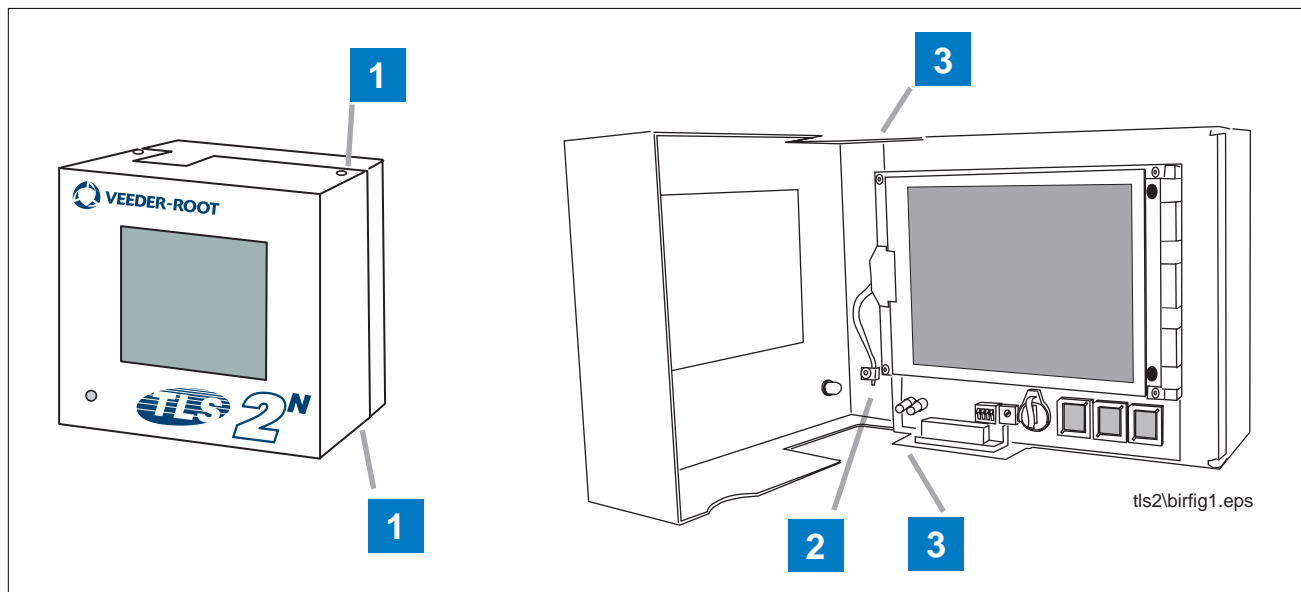

Figure 1. Replacing TLS-2N Console Door
- 1 Remove the top and bottom T-15 screws and washers from the right side of the console door (item 1 in Figure 1), swing the door to the left. Replace the two screws (and washers) into their holes and tighten them.
- 2 Loosen the T-15 screw in the door grounding terminal and remove the ground wire (item 2 in Figure 1).
- 3 Remove and retain the top and bottom T-15 screws and washers (item 3 in Figure 1) from the left side of the console door and remove and discard the door. Replace the top and bottom T-15 screws in their holes and tighten.